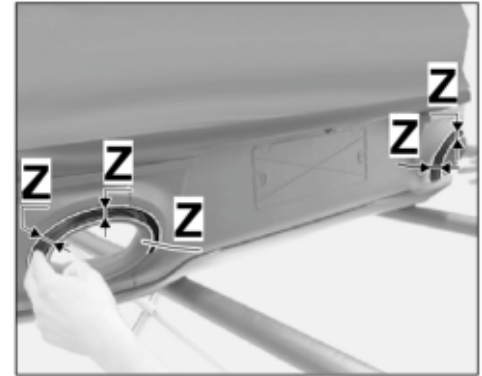

Figure 7
3.4.2 Turn the rear trim and check that the gap = "dimension Z" between the new sports tailpipes and exhaust pipe cover (rear apron – left and right side of vehicle) is symmetrically constant (⇒ *Figure 7*).